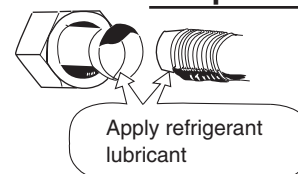

Fig. 1-113
- (1) Apply a sealing cap or water-proof tape to prevent dust or water from entering the tubes before they are used.
- (2) Be sure to apply refrigerant lubricant to the matching surfaces of the flare and union before connecting them together. This is effective for reducing gas leaks. (Fig. 1-113)